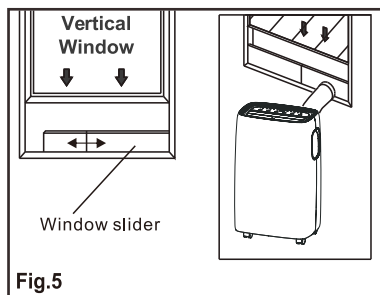

Fig.5
4. Affix the hose outlet into the window slider kit and seal. (Fig.5 &6).